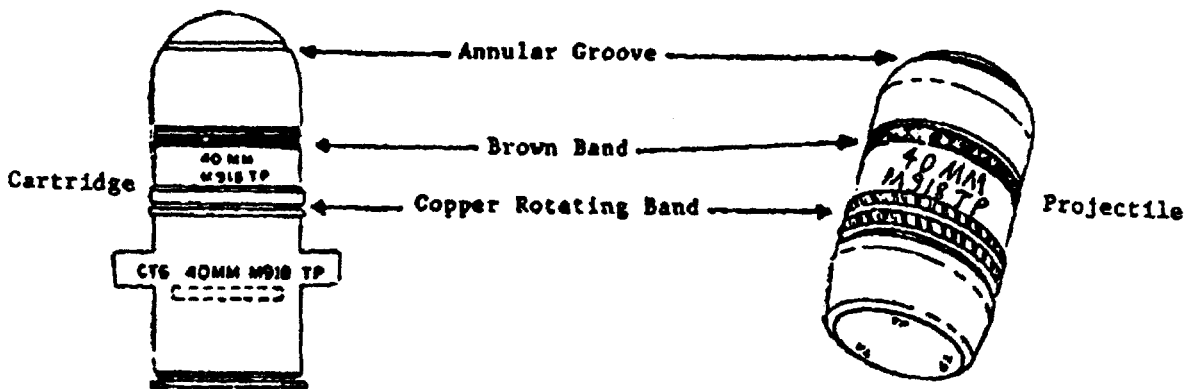

Figure 1. Cartridge and Projectile, 40MM, TP, M918.
(1) Cartridge. The M918 cartridge (fig. 1) is a fixed round of ammunition with a straight wall rimmed cartridge case. The cartridge consists of the cartridge case attached to the projectile. The cartridge case is anodized green. The markings "CTG 40MM M918 TP" are stenciled in black on the cartridge case.
(2) Projectile. The M918 projectile body (fig. 1) features an ogive with an annular groove and a copper rotating band. The projectile is blue with a 1/4-inch brown band behind the ogive. The markings "40MM M918 TP" are stenciled in black on the projectile body. The annular groove is provided for identification as a TP round. In addition, the letters "TP" are stamped in three places on the bottom of the projectile body.